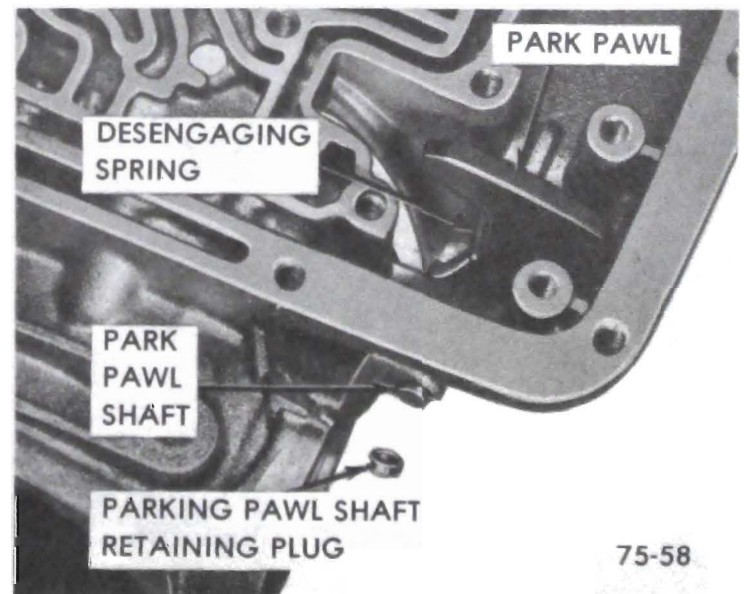

Figure 75-87
7. Remove parking pawl shaft retaining plug stake marks. Remove retaining plug, parking pawl shaft, parking pawl, and disengaging spring. See Figure 75-87.